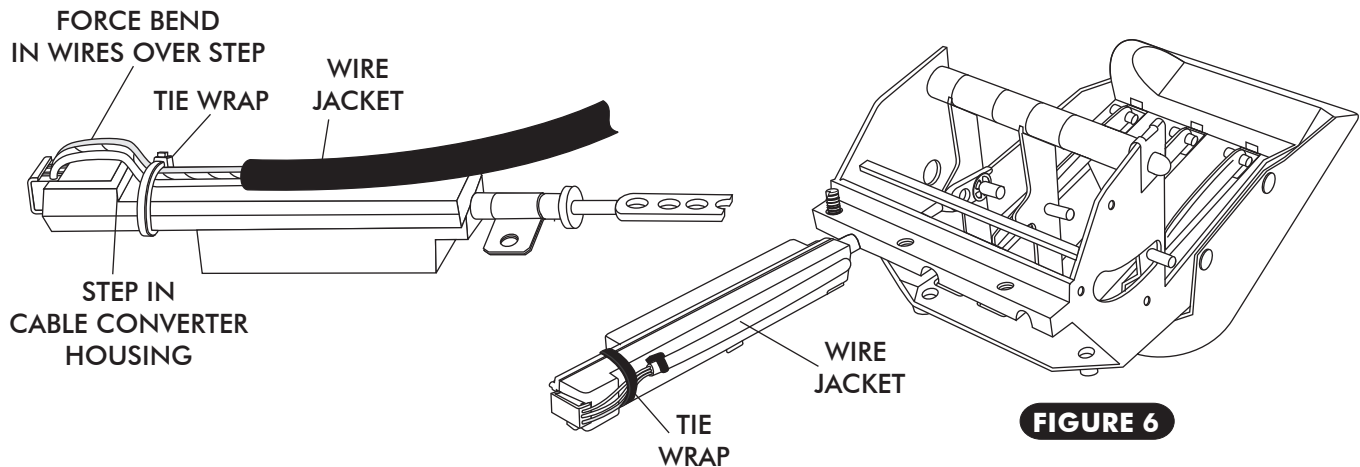

FIGURE 6
- ONCE WIRES ARE CORRECTLY PLUGGED INTO CABLE CONVERTER ASSEMBLY, SECURE WIRES TO THE CABLE CONVERTER ASSEMBLY USING TIE WRAPS (SUPPLIED). SEE FIGURE 6 BELOW. THE TIE WRAP MUST BE LOCATED BETWEEN THE END OF THE WIRE JACKET AND THE STEP IN THE CABLE CONVERTER HOUSING FORCING A BEND IN EACH WIRE AS THEY PASS OVER THE STEP IN THE CABLE CONVERTER HOUSING. HEAD OF TIE WRAP MUST FALL ON EDGE OF HOUSING AS SHOWN TO REMAIN TIGHT. ENSURE THAT THE TIE WRAPS ARE SNUG ENOUGH THAT THE WIRES CANNOT MOVE. SEE FIGURE 6.